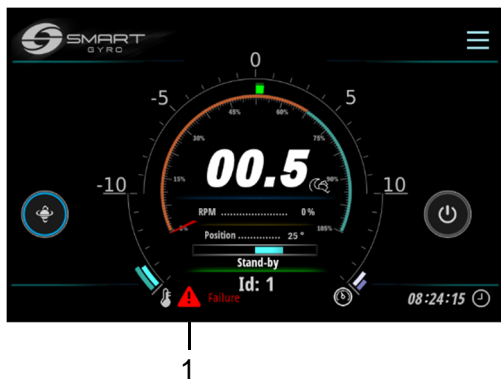

Figure 1
In the occurrence of a low-level anomaly, the gyro system will continue to operate, but in the occurrence of a high-level anomaly, it will lock the precession and stop the motor. In addition, an alert icon (**Figure 1, (1)**) is shown on the Home page to notify you of the occurrence of the high-level anomaly.